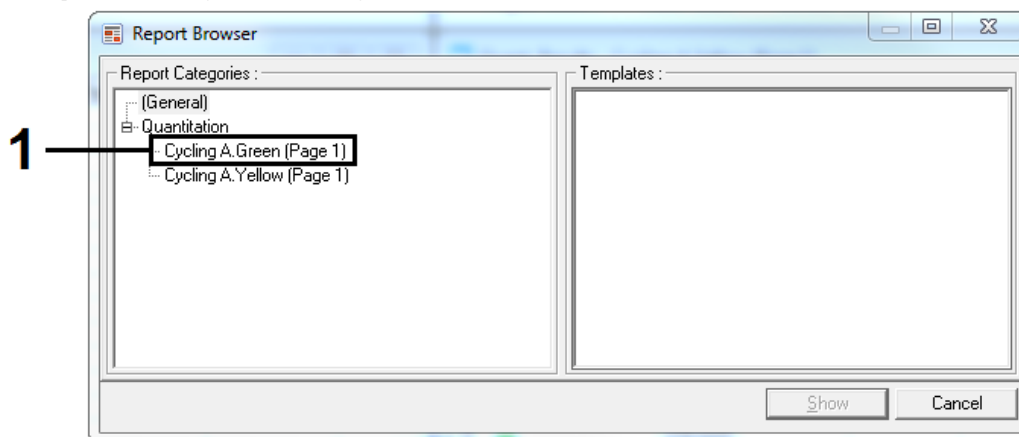

Figure 7. Report browser. 1 = “Cycling A Green” channel analysis.
9. In the report browser, click “Cycling A Green (page 1)” under “Report Categories” (Figure 7).